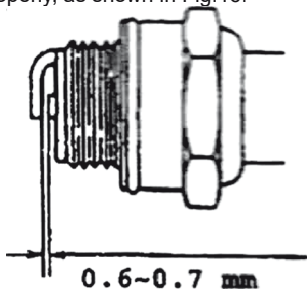

fig. 16
- The distance between the electrodes of the spark plug must be 0.6-0.7 mm. Please check this space often, if it is too big or too small, adjust it properly, as shown in Fig.16.